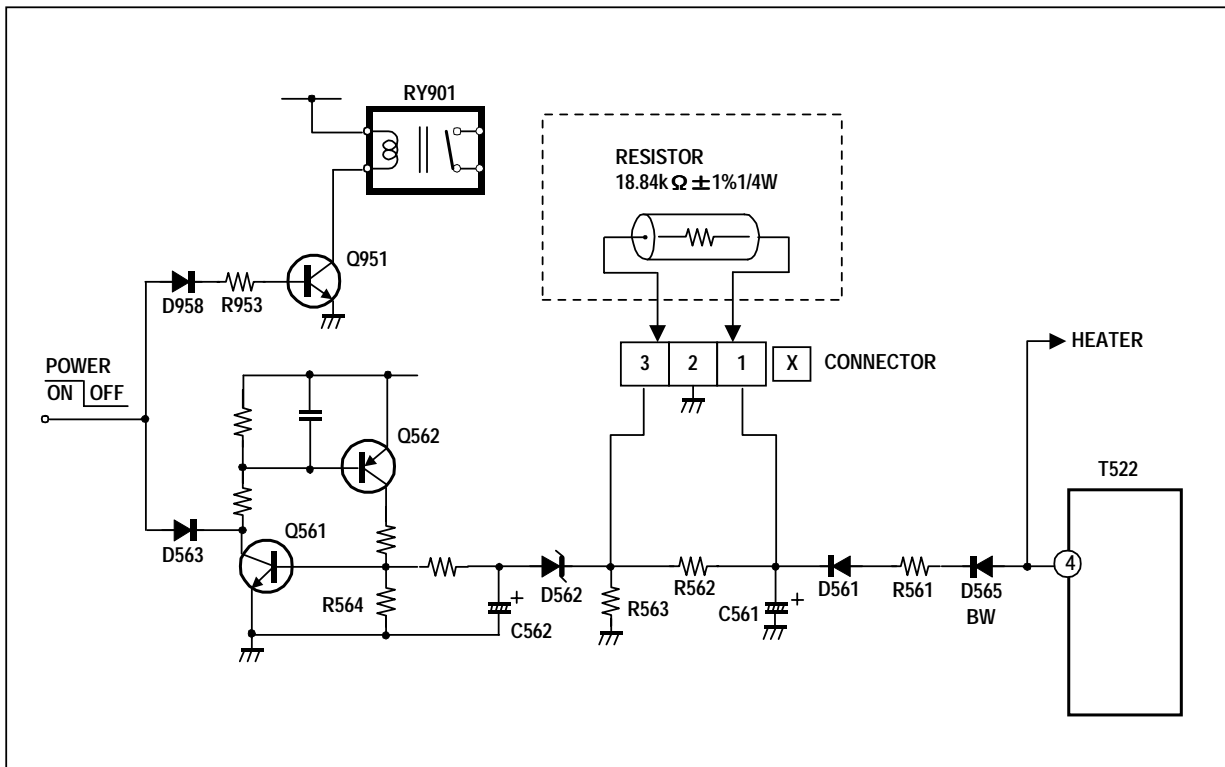

Fig. 1
After repairing the high voltage hold down circuit shown in Fig. 1.
- (1) Turn the POWER SW ON.
- (2) As shown in Fig. 1, set the resistor (between connector 1 & 3).
- (3) Make sure that the screen picture disappears.
- (4) Temporarily unplug the power cord.
- (5) Remove the resistor (between connector 1 & 3).
- (6) Again plug the power cord, make sure that the normal picture is displayed on the screen.